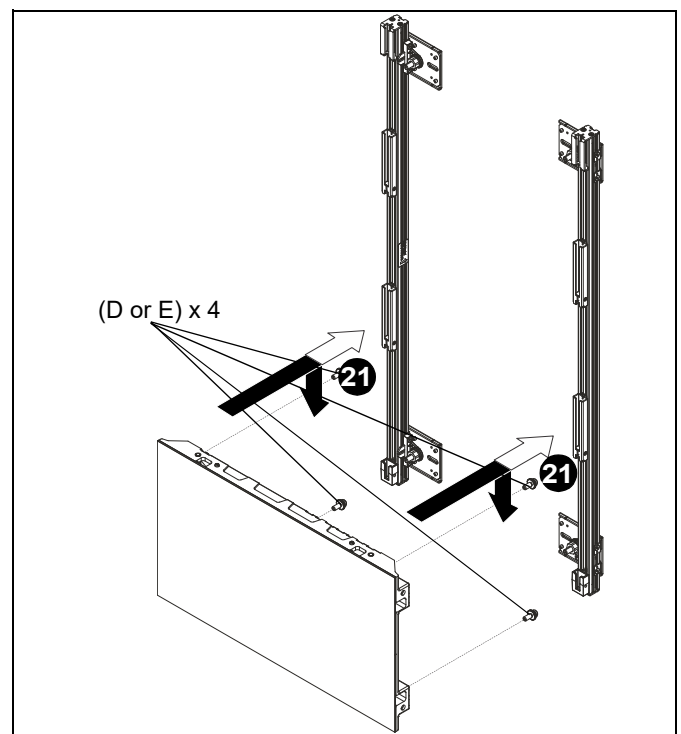
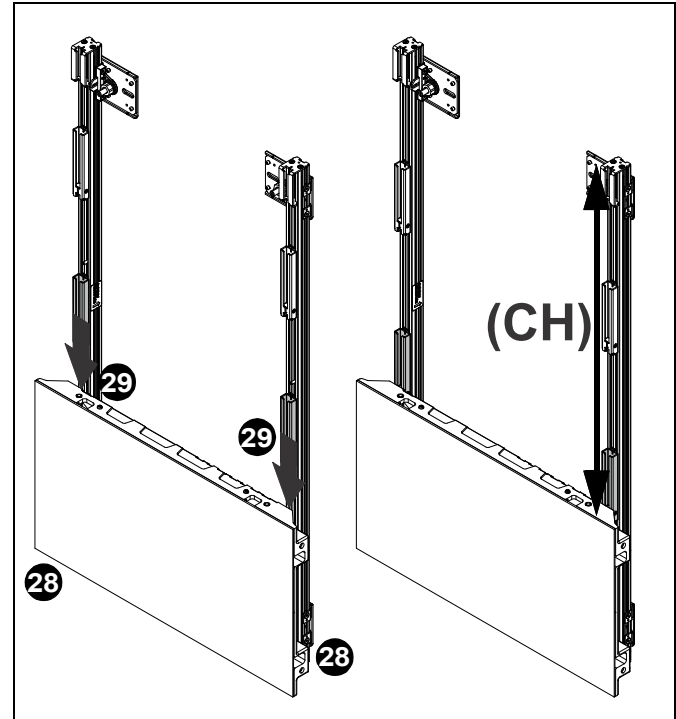

Figure 9
Figure 11
21. (Optional) Install four mounting buttons (D or E) onto back of a display (if available) and install onto H-blocks to ensure the uprights are properly distanced. (See Figure 9) and (See Figure 11)
27. Install mounting buttons (D or E) into one display to be installed. (See Figure 9)
28. Install display to mount by inserting lower mounting buttons into the base carriages. (See Figure 11)
29. Slide the H-blocks down the extrusion to enclose the upper mounting buttons. (See Figure 11)
30. Use a tape measure to determine coverage height (CH), which is the distance from the top of display to the top of mounting column. (See Figure 11)
31. Compare the coverage height (CH) with remaining display height to determine whether column height needs to be adjusted.